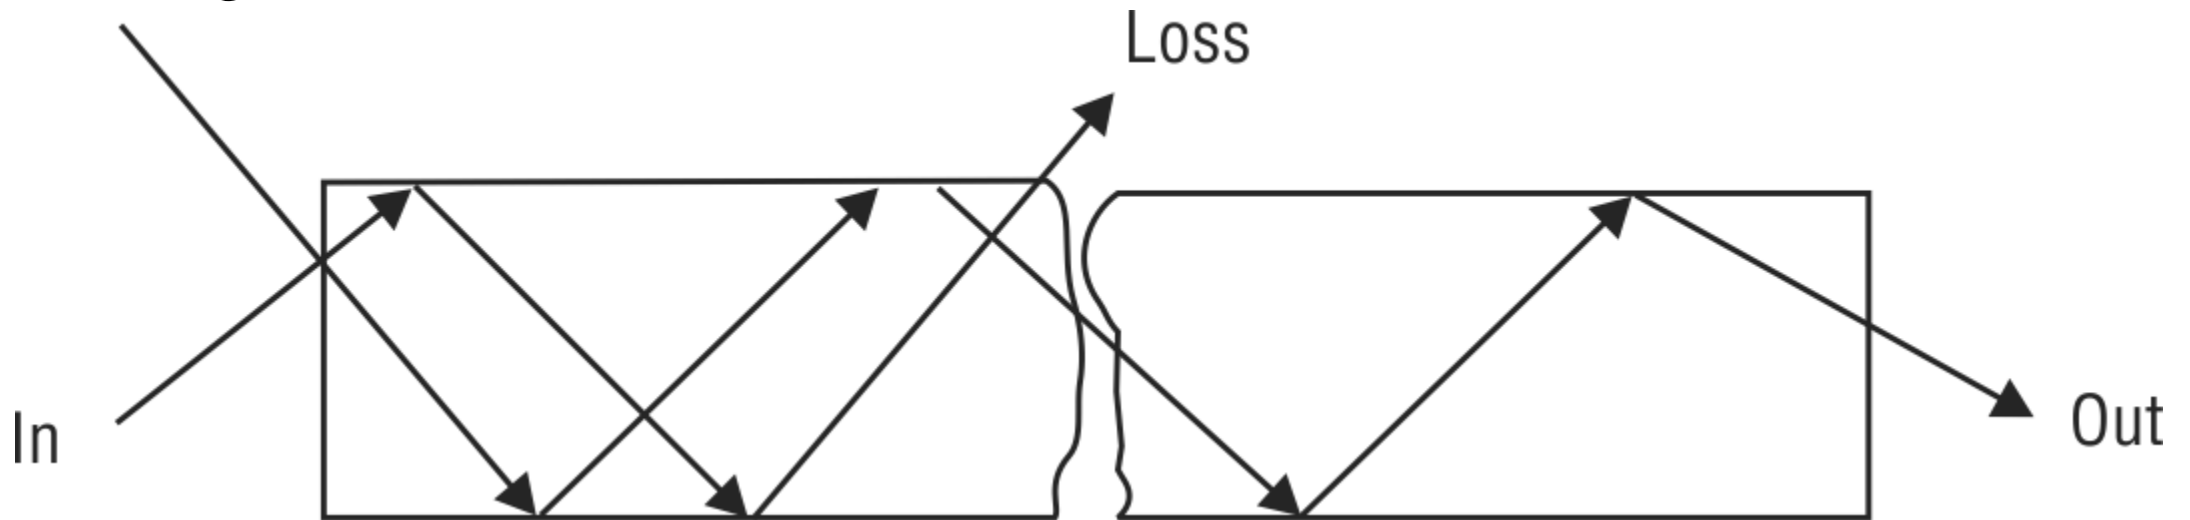

Fig. 29: Imperfect surface finish in optical fibers
- 4. *Imperfect surface finish.* Imperfect surface finish is shown in Fig. 29.